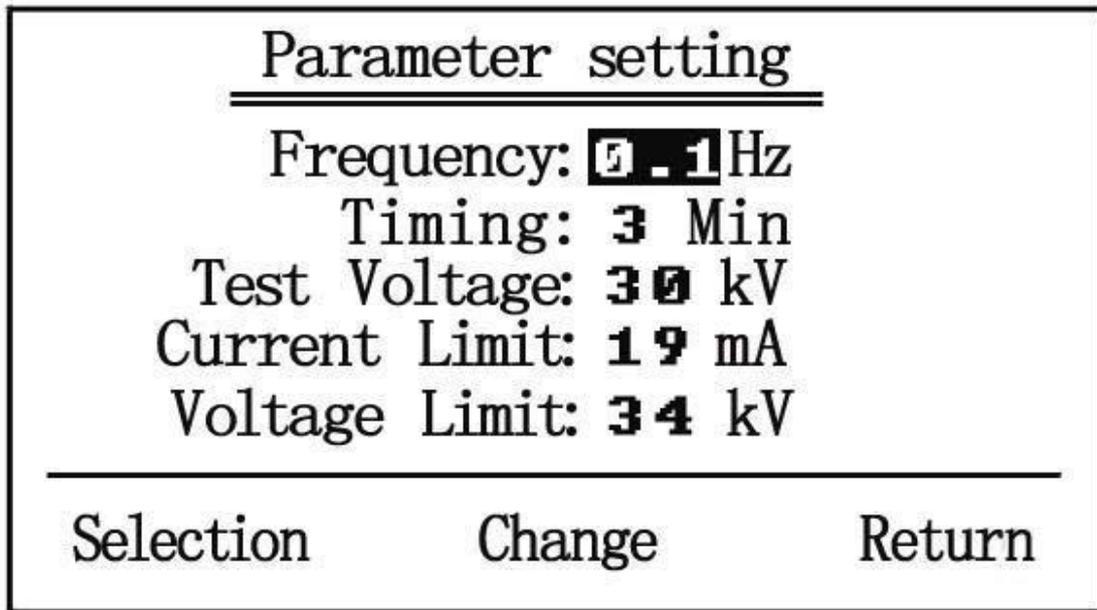

Figure 5 (Limit setting interface)
After completing the wiring of all the circuits in the method motioned above, the power switch can be put on. The instrument will automatically enter into the limit setting interface as shown in figure 5 when the microcomputer is electrified and reset. The power shall be shut-down on wiring, removal of lines or temporary non-use of the instrument. The power socket is provided with fuse tube, in case there is no display on the screen upon start-up, the first check shall be made on the fuse tube. The rating of the replaced tube shall be according to the data in Table 1.
On limit setting interface as shown in figure 5, the user can set output frequency, test time and voltage, overcurrent protection value on high-voltage side and overvoltage protection value according to test requirement. The modification methods are as follows:
- (A) Click “Boost” key, the instrument will enter into automatic boost procedure.
- (B) Click “Setting” key, the instrument will return to set limit sub-interface as shown in figure 5 to re-modify parameter.
- (C) Click “Check” key to check the test data in the last nine times.
(4) Automatic boost